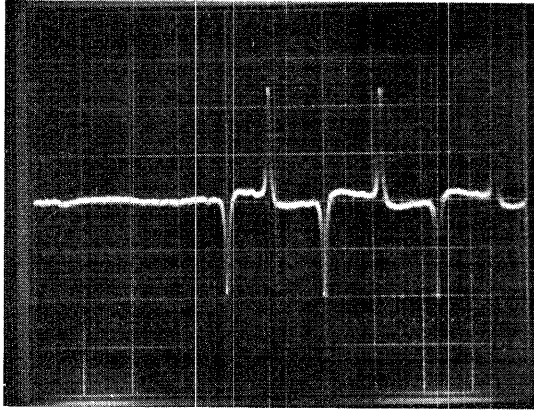

FIGURE 10. INDEX TIMING
- g. Observe the timing between the start of the sweep and the first data pulse. This should be $200 \pm 100 \mu$ sec. If the timing is not within tolerance, continue on with the adjustment. Reference figure 10.